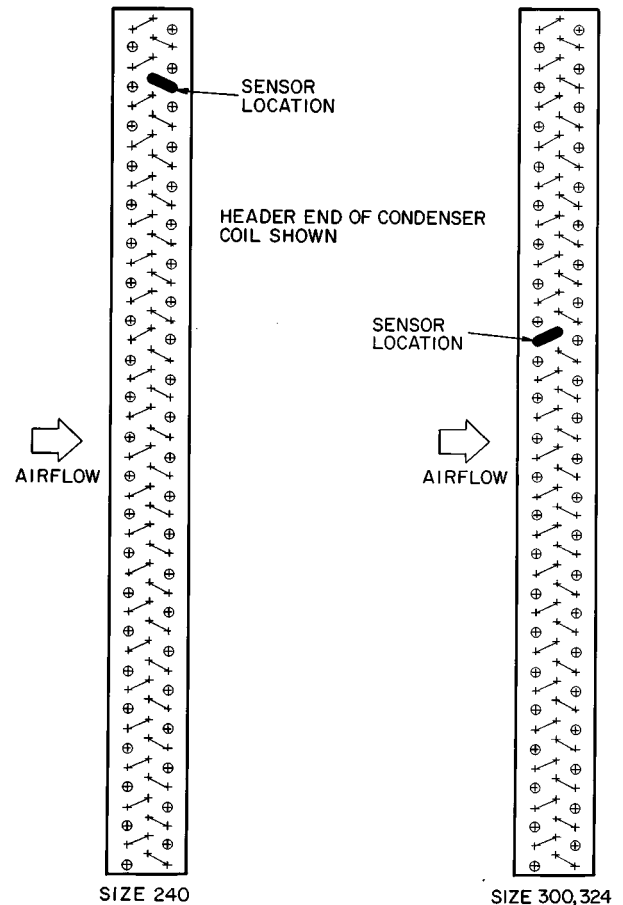

Fig. 7 — Controller Sensor Location — 558E,558F,580E
- See Fig. 7 for sensor location. Secure the sensor to the coil return bend with no. 4-40 screw, 2 plate washers and nut (supplied with accessory) as shown in Fig. 8.